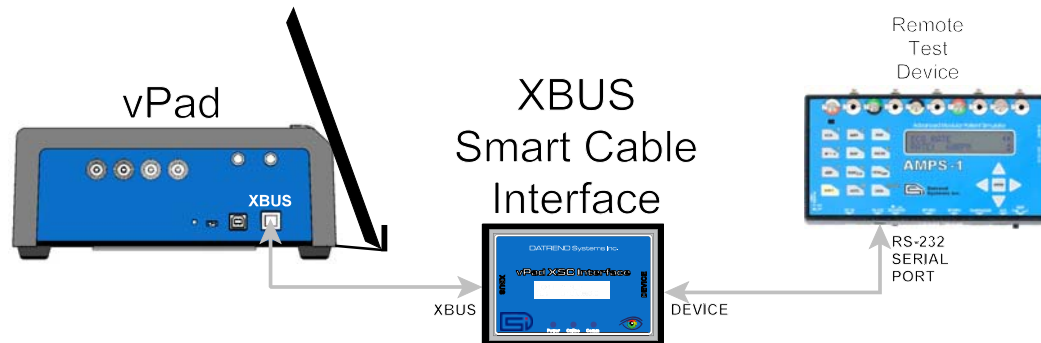
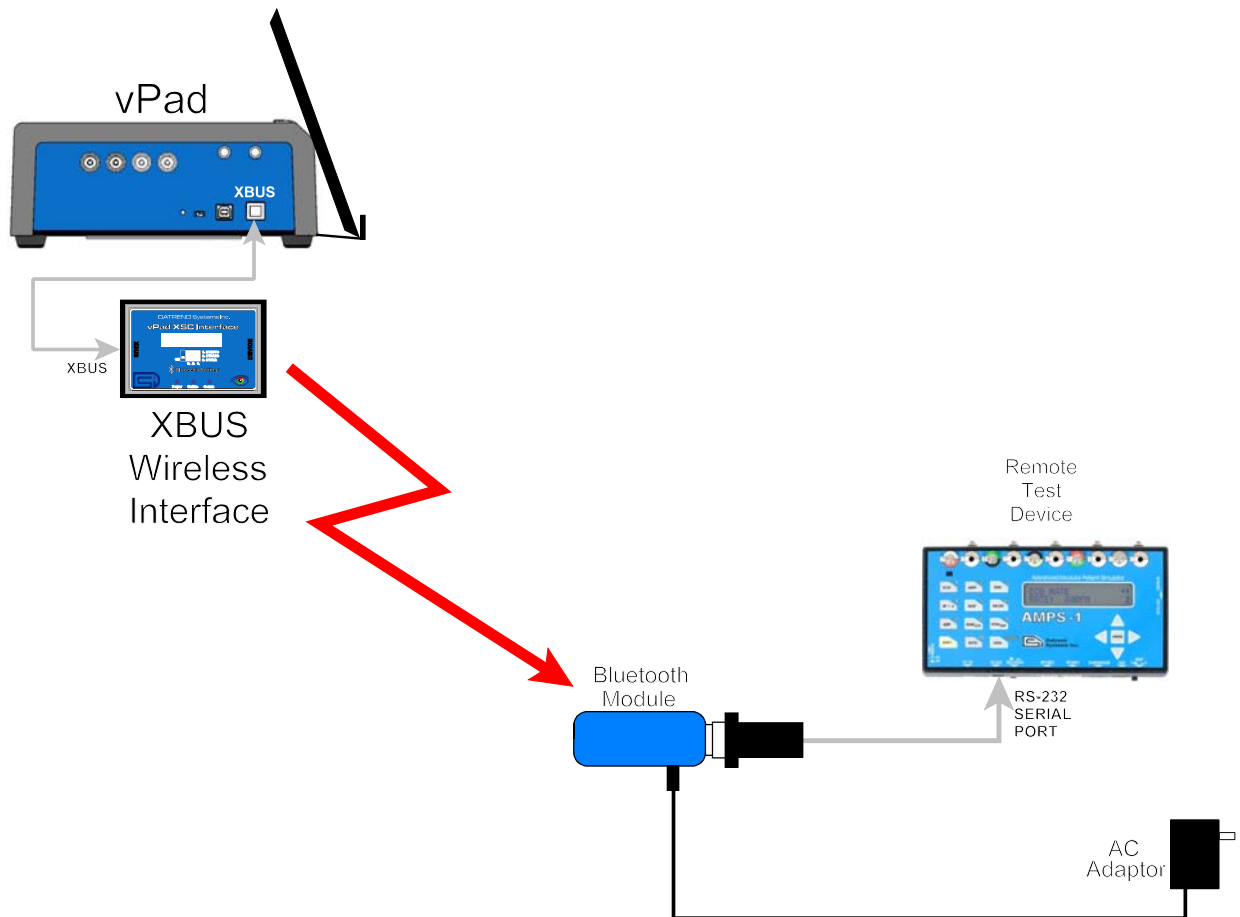

Figure 57 - Schematic showing setup of remote test device - wired (serial) interface.
Figure 58 - Schematic showing setup of remote test device - wireless (Bluetooth) interface.
Figure 57 shows the general setup for a wired connection to a remote device, in this case a Datrend AMPS-1 patient simulator. The figure is a schematic representation and is not drawn to scale.
Figure 58 shows the general setup for a wireless connection to a remote test device. The figure is a schematic representation and is not drawn to scale. Communication is based on point-to-point Bluetooth and is possible over distances of up to thirty feet (10 meters).
- f. Optionally, a wireless XSC may be switched to wired operation. To do so, disconnect the XSC from the vPad and set the "BTENA" switch of the interface to the "OFF" position. This will disable the Bluetooth connectivity of the XSC. A wired connection to the test equipment may then be set up as shown in **Figure 58**.
If the connection cannot be opened, an error message will be displayed. In this case, check physical connections per **Figure 57** or **Figure 58** and verify the test equipment is powered up. Note that certain test devices need to be set to "remote control mode" to enable serial communication; if necessary, refer to instructions provided with the test device. In the event of an communication error, you can correct the problem with the hardware and attempt to reconnect to the device by pressing '**Previous Step**' then '**Next Step**'.